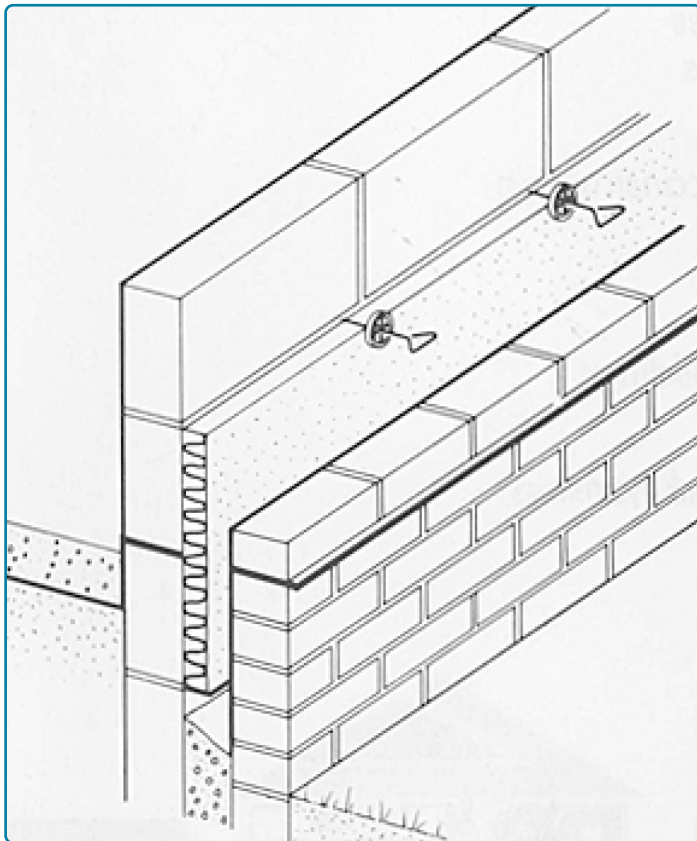

Figure 1
1.1 A section of the leading leaf is built with the first row of wall ties, at approximately 600mm horizontal spacing, where the insulation is to begin. The first run of boards may commence below the damp-proof course level to provide some edge insulation for the floor (see figure 1) Figure